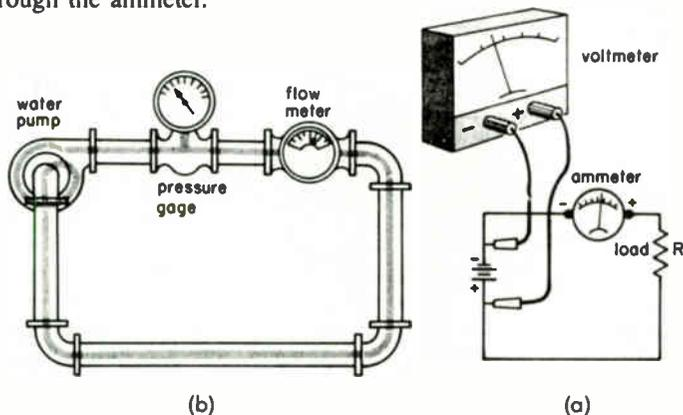
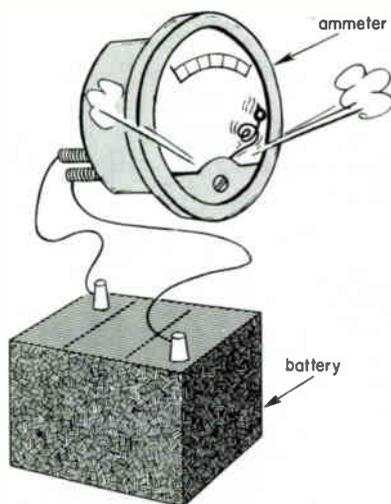

Fig. 36 Electrical measurements and corresponding water-flow measurements.
Fig. 37 If this were a voltmeter, it would be connected correctly. However, an ammeter connected this way would burn out at once.
9 **VOLTMETERS AND THEIR USE . . .** As you've seen in preceding illustrations, an ammeter is connected in series, so that the current being measured must pass through the ammeter. The needle deflection of the ammeter is proportional to the amount of current passing through the meter. In other words, we hook up the ammeter in Fig. 36(a) the same way we hook up the water-flow meter in Fig. 36(b). The water in (b) must flow through the flow meter, just as the current in (a) must flow through the ammeter.
However, note that in Fig. 36(b) the water-pressure gage is connected in such a way that no water flows through it. If we tried to do that, no water could flow, since water can't get through a pressure gage. The gage consists of a diaphragm that is distended by the water pressure. This bulging out of the diaphragm pushes against the pressure-indicating needle.
36 Since a voltmeter measures the electrical equivalent of pressure, it can't be connected in series, like an ammeter. If it were connected in series, only a negligible current would get through, since a voltmeter has an extremely high resistance. As Fig. 36(a) shows, a voltmeter must be connected in parallel with the voltage to be measured. That is, one of the voltmeter test leads is connected to each side of the voltage being measured. In Fig. 36(a), we connected the leads to the two battery terminals, which enables us to measure the battery voltage.
When using an ammeter, therefore, be extremely careful that you don't connect it as you would a voltmeter. An ammeter has a very low resistance, and so it would draw a huge current if connected across a voltage source. As a result, the ammeter would burn out instantly. (Fig. 37). When the ammeter is properly connected, as in Fig. 36(a), the resistance of the load R limits the current from the battery so that the ammeter will not burn out—unless, of course, the current taken by the load is greater than the meter is designed to measure.
By “load” (a term you’ll hear frequently in electronics) we mean the device to which the voltage source is furnishing power. Although we represent the load in Fig. 36(a) by a resistance, it could just as well be a toaster, an amplifier, a transistor, or anything at all that you are using the battery to supply current to. The value of the resistance R is the equivalent resistance of the actual load, whatever that load might be.
1. Even though the load on a circuit might be a transmitter, it can be represented by a resistance, such as R on Fig. 36(a). The value of R is the _____ resistance of the transmitter. If the load were six lamps connected in parallel, each with a resistance of 18Ω , then the value to show for the load resistance R would be _____ ohms.